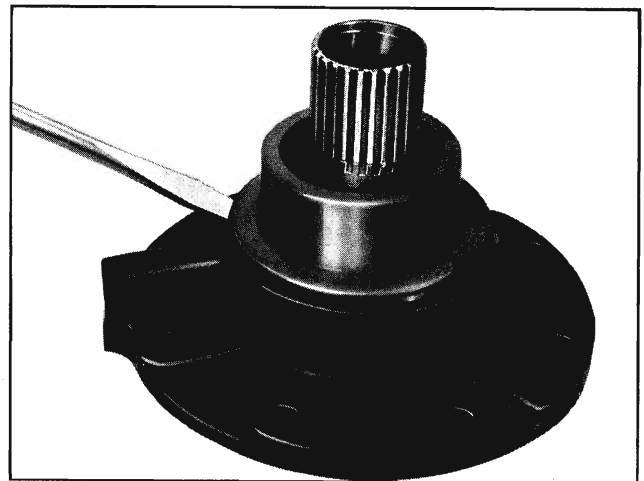

Fig. 4-48 Removing Rear Flange and Stator Seal
5. Pry off rear flange and stator seal as shown (Fig. 4-48).